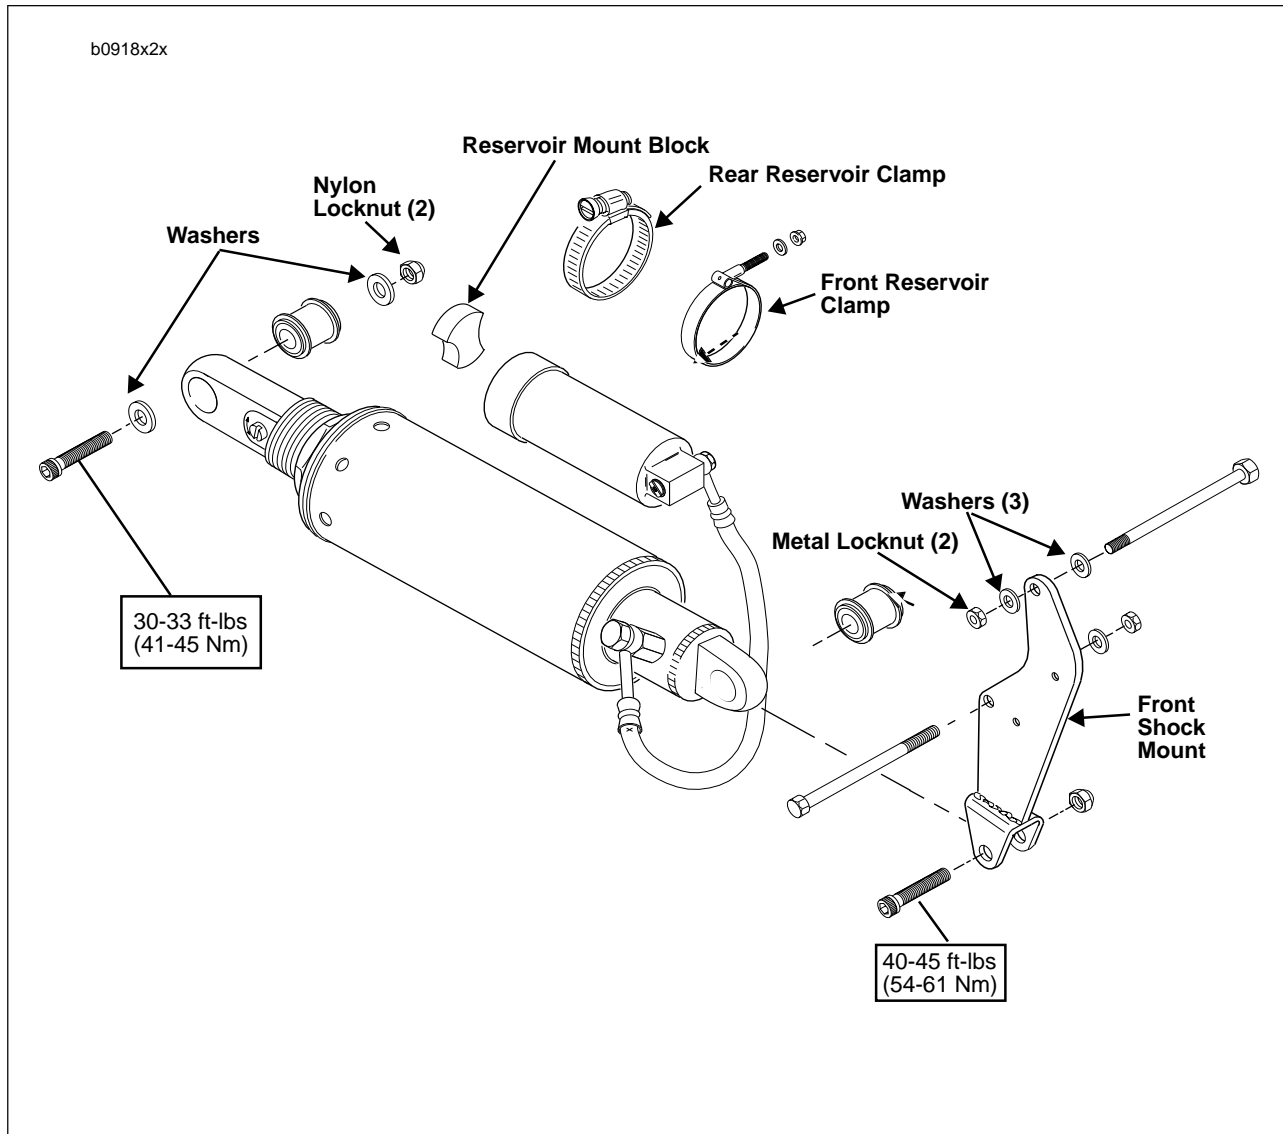

Figure 2-87. Rear Shock Absorber
1. See Figure 2-87. Place **new** bushings into mounting holes of shock absorber (if only replacing bushings).